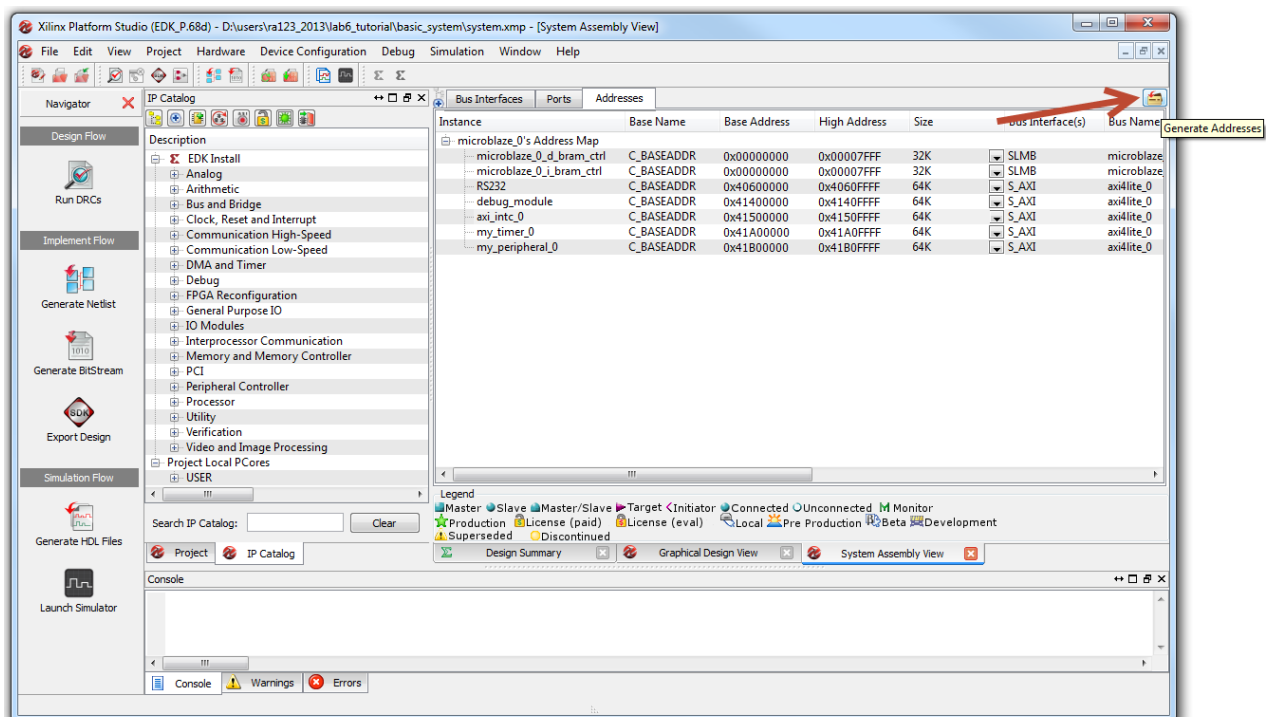

Figure 44: Generate Address
3. Click on the **Addresses** tab from **System Assembly View**. Change the **Size** for *axi\_intc\_0* to 64K. Then click **Generate Addresses**(Figure 44).